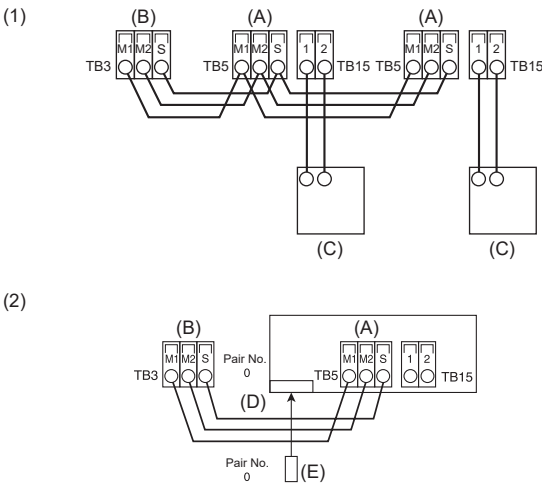

Fig. 6-6
6.4. Connecting remote controller, indoor and outdoor transmission cables (Fig. 6-6)